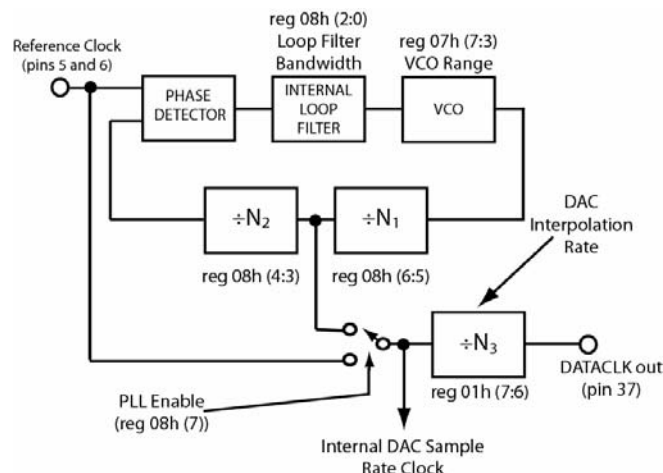

Figure 32. Internal Clock Architecture of AD9778
The internal clock architecture is shown in Figure 32. The reference clock is the differential clock at pins 5 and 6. This clock input can be run differentially, or singled ended by driving pin 5 with a clock signal, and biasing pin 6 to the mid swing point of the signal at pin 5. There are various configurations in which this clock architecture can be run;
1. PLL Enabled (reg 08h, bit 7=1) – The PLL enable switch in Figure 32 is connected to the junction of the dividers N1 and N2. Divider N3 determines the interpolation rate of the DAC, and the ratio N2/N3 determines the ratio of Reference Clock/Input Data Rate. The VCO runs optimally over the range 804MHz to 1800MHz, so that N1 is used to keep the speed of the VCO in this range, even though the DAC sample rate may be lower. The loop filter components are entirely internal and no external compensation is necessary.
2. PLL Disabled (reg 08h, bit 7=0) – The PLL enable switch in Figure 32 is connected to the Reference Clock Input. The differential reference clock input will be the DAC output sample rate and N3 will determine the interpolation rate.